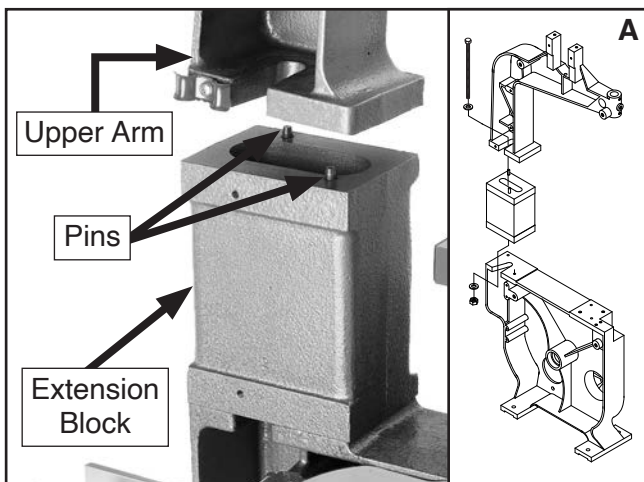

Figure 4. Placing upper arm on extension block and attaching extension block bolt assembly.
6. Place extension block on base pins, then have assistant place upper arm on extension block pins and hold it in place (see **Figure 4**).